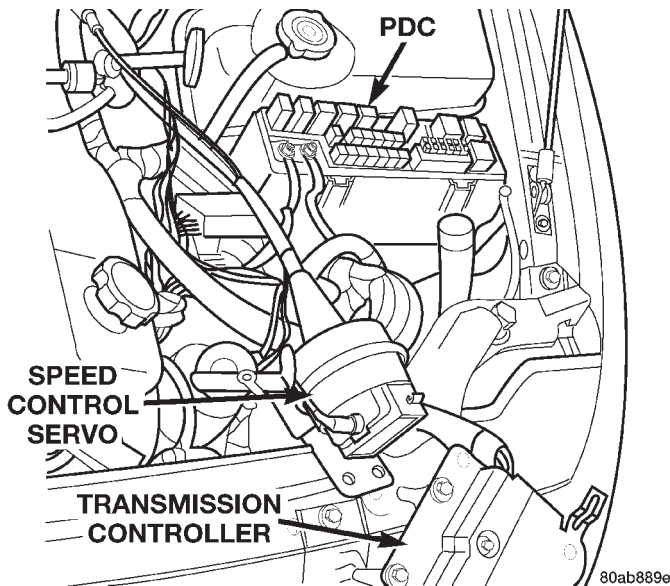

Fig. 58 TCM Location
- (3) Remove washer bottle filler neck.
- (4) Remove Transmission Control Module (TCM) reposition out of the way (Fig. 58).